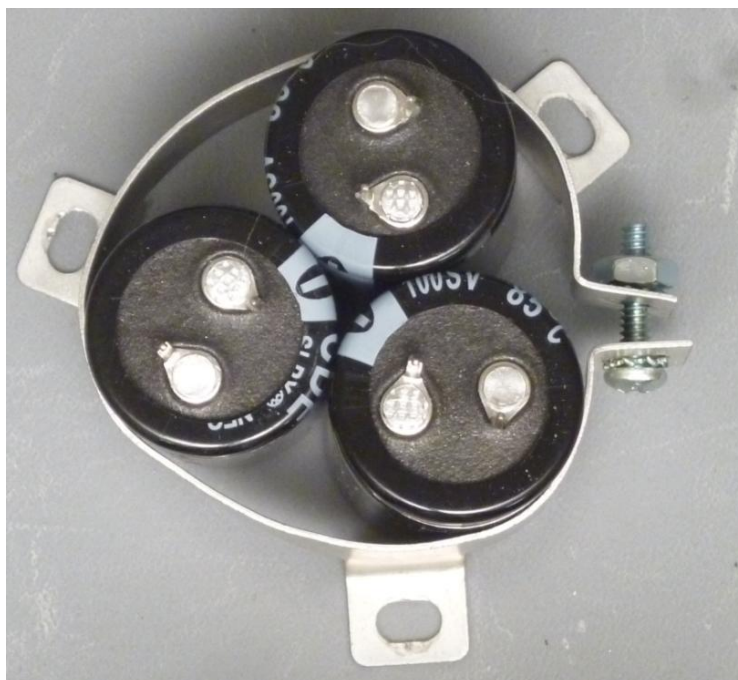

Figure 2-Note the position of the caps, offset from the mounting feet
1. You’ll replace C9, a single 2” diameter capacitor with three 25 mm diameter capacitors, as shown in Figure 2.
3. Position the group of three caps as shown in Figure 2. That positioning allows you to slightly bend the clamp to allow all three mounting holes to match the chassis.